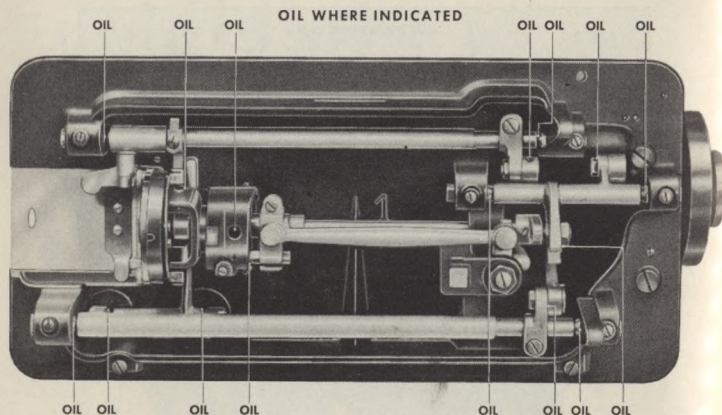

Fig. 3
c. Tilt the machine back on its hinges, so that the underside is accessible, and apply a drop of oil to all oiling points indicated in Fig. 3 by arrows.